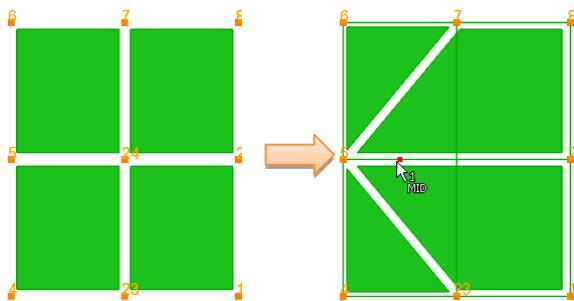

Figure 7-23 Collapse Edge collapses edge of an element, but position is snapped to the boundary of the concept.
- 3) Collapsing an edge of an element in the boundary of concept's mesh (edge connected to boundary of the concept) as in Figure 7-23.
Collapsing edge/diagonal of which one of the ends lie on the edge of a concept will result in snapping to that edge as shown in Figure 7-23.